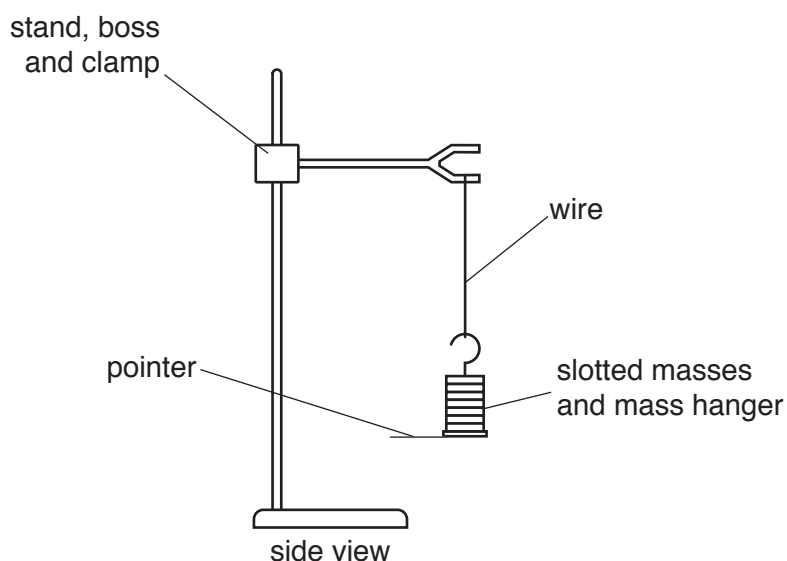

Fig. 1.1
3. Supervisors should set up the apparatus shown in Fig. 1.1 with the mass hanging on the wire just above the base of the stand, with the mass at rest.
4. At the changeover the Supervisor should restore the apparatus to the configuration shown in Fig. 1.1 with all the slotted masses on the mass hanger.